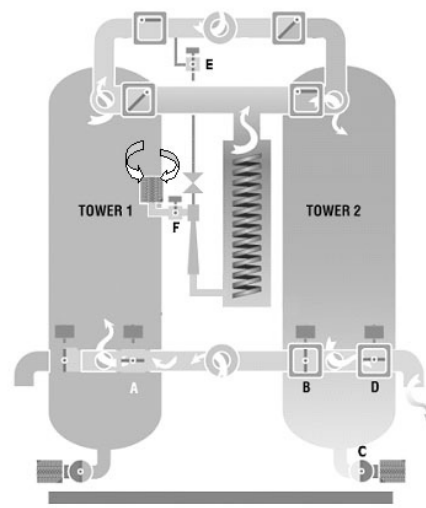

Figure 5
1. Left Tower Drying – Right Tower Regenerating (See Figure 5)